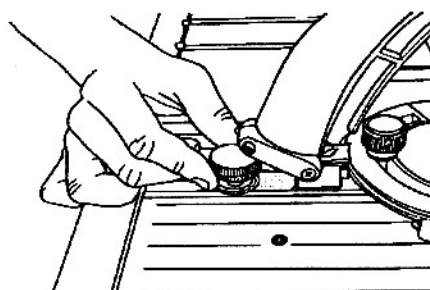

Fig. D-23
2. Place the miter stop behind the miter gauge and tighten the knob, as in Fig. D-23.